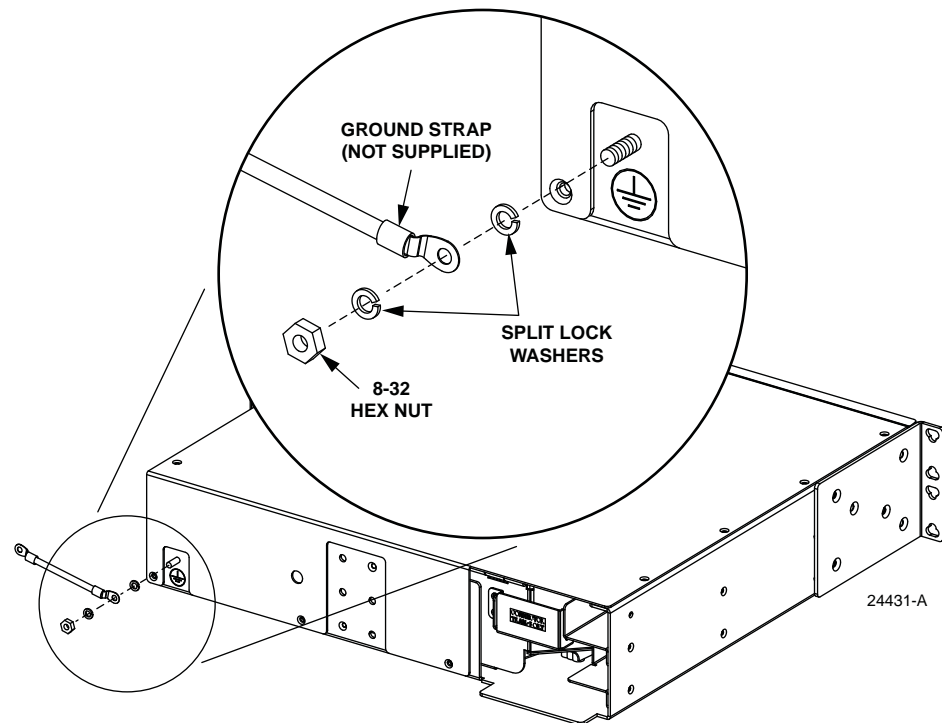

Figure 16. Attaching Ground Strap to Panel Rear
2. Locate the threaded stud on the rear of the chassis. Assemble split-lock washers, ground strap, and 8-32 hex nut on the grounding stud, as shown in Figure 16, using an appropriate, customer-supplied ground strap. Follow local procedure.